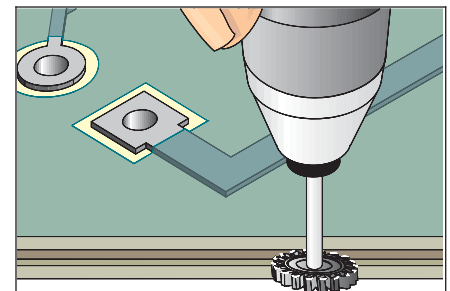

Figure 2 Cut a groove into the edge of the PC board.
4. Install a carbide saw into the hand held drill. Set the speed to maximum and machine a groove in the edge of the printed circuit board where the new base material will be installed. The groove must be centered in the edge to ensure that the new piece will fit properly. The groove width should be approximately 1/3 of the printed circuit board thickness. The groove depth should be approximately double the groove width. (See Figure 2.)